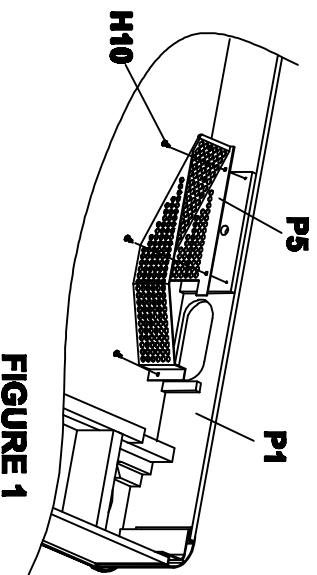

FIGURE 1
2. Place pool table P1 up-side-down and attach the ball catcher P5 using screws H10 as shown in FIGURE 1